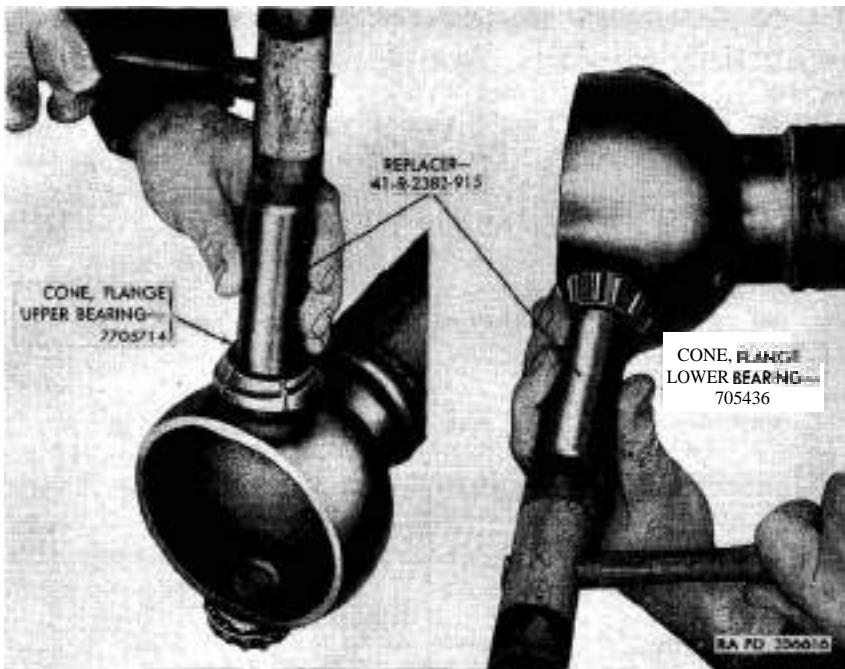

Figure 67. Installing flange bearing cones.
c. *Install Flange Upper and Lower Bearing Cones.* If inspection (par. 78b (4)) reveals that replacement of upper and lower flange bearing cones is necessary, install 5/32 x $\frac{5}{16}$ Woodruff keys (N and AR, fig. 62) in axle housing upper pivot pins. Start flange upper and lower bearing cones on pins and drive in place with replacer 41- R-2382-915 (fig. 67).